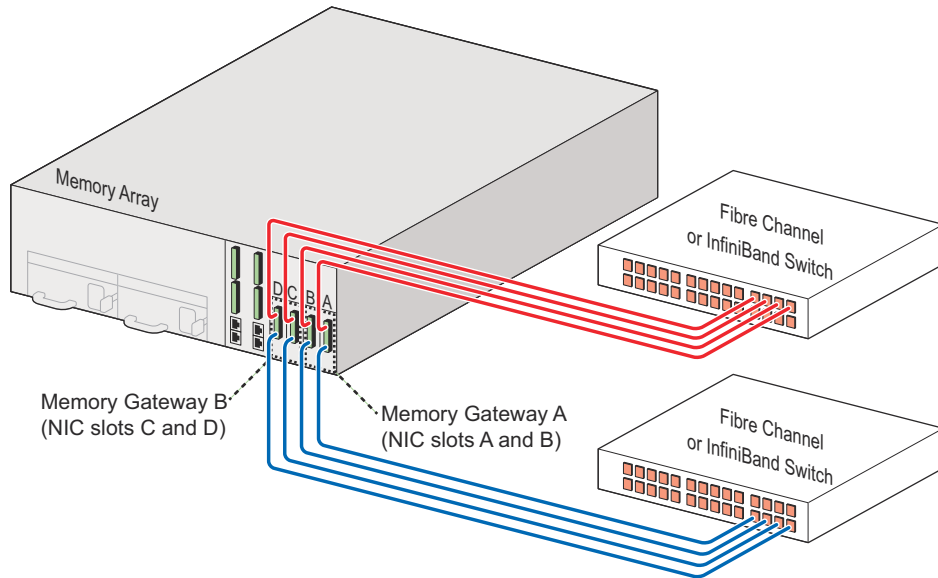

Figure 1.2 High-availability SAN-attached via Dual Internal Memory Gateways
The Memory Array includes two internal Memory Gateways. Each internal Memory Gateway supports two network interface modules (shown in Figure 1.2), each of which can support the following:
Figure 1.2 shows the supported cable configuration when setting up a high-availability (HA) system. This is the only supported HA configuration for the 6000 Series Memory Array. Memory Gateway A manages connectivity through NIC slots A and B; Memory Gateway B manages connectivity through NIC slots C and D.